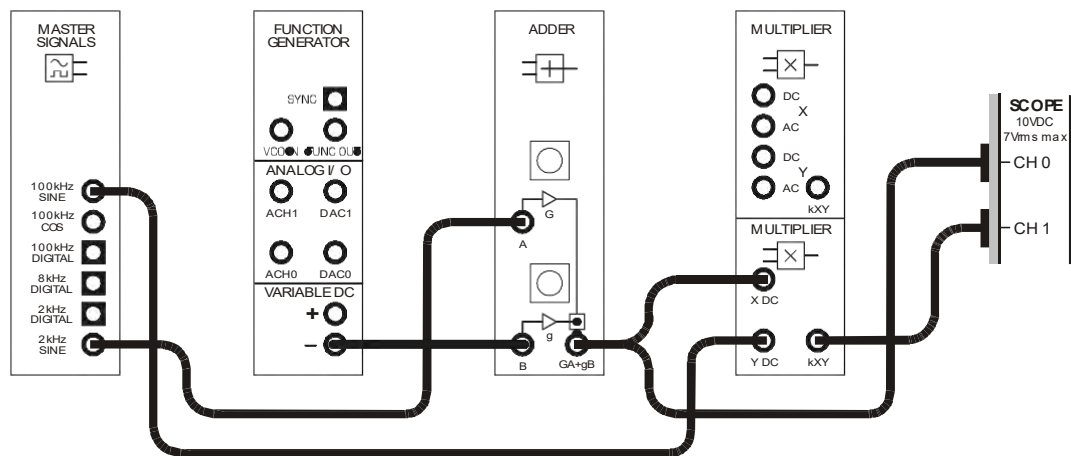
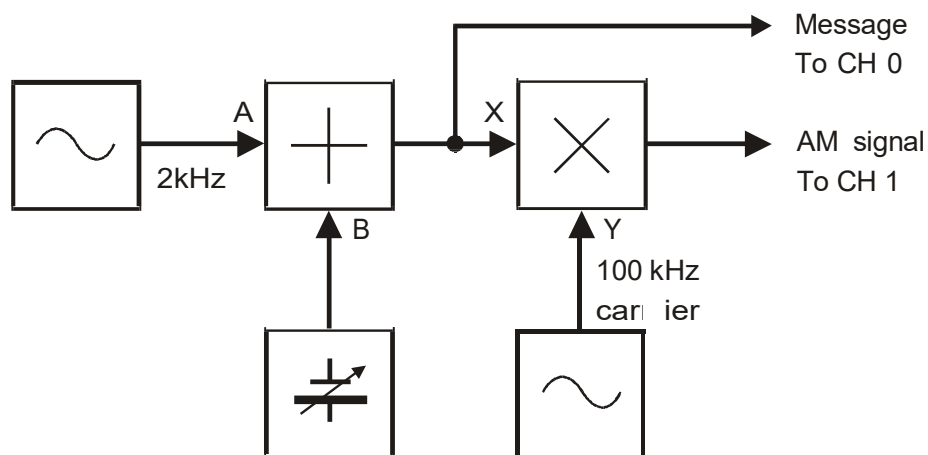

Figure 2
Figure 3
14. Connect the set-up shown in Figure 2 below.
The set-up in Figure 2 on the previous page can be represented by the block diagram in Figure 3 below. It generates a 100kHz carrier that is amplitude modulated by a 2kHz sinewave message.